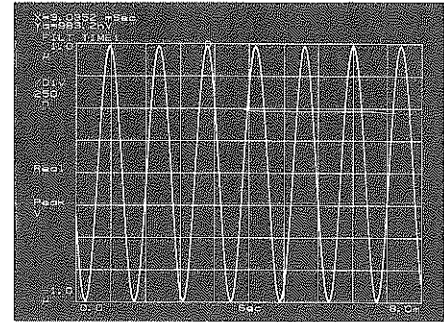

Figure 8-2
**9. Activate Marker** Press the **X** key to activate the X-axis trace marker. Notice that the marker readout is in terms of time (msec) and (voltage)  $\div (1 \times E6)$  as shown in Figure 8-2.